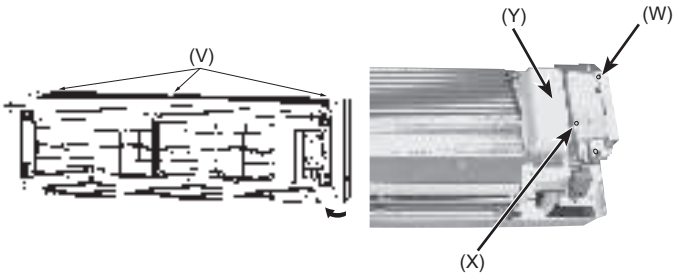
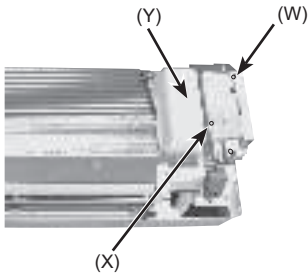

Fig. 6-3
Fig. 6-4
- (3) Unfix 3 hooks. (Fig. 6-3)
- (4) Hold the lower part of both ends of the panel and pull it slightly toward you, and then remove the panel by pushing it upward.
- (5) Remove the front and side electrical box covers (each 1 screws). (Fig. 6-4)
- (6) Remove the water cut. (Fig. 6-4)